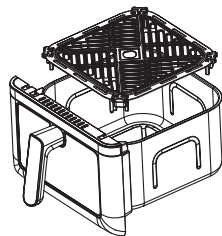

Fig. 2
- Insert the frying tray into the frying pot (Fig. 2).